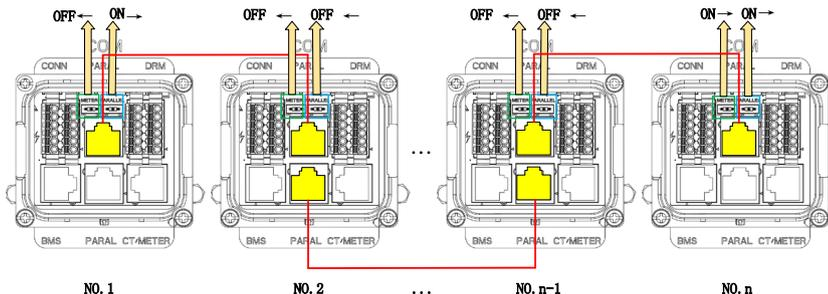

Figure 4-28 Parallel Net Cable Connection
3. Power on the parallel system as the following steps in Figure 4-28.
- ① Close grid side AC circuit breaker of each inverter.
- ② Close load side AC circuit breaker of each inverter.
- ③ Close PV side PV switch of each inverter.
- ④ Close energy storage side DC breaker of each inverter.